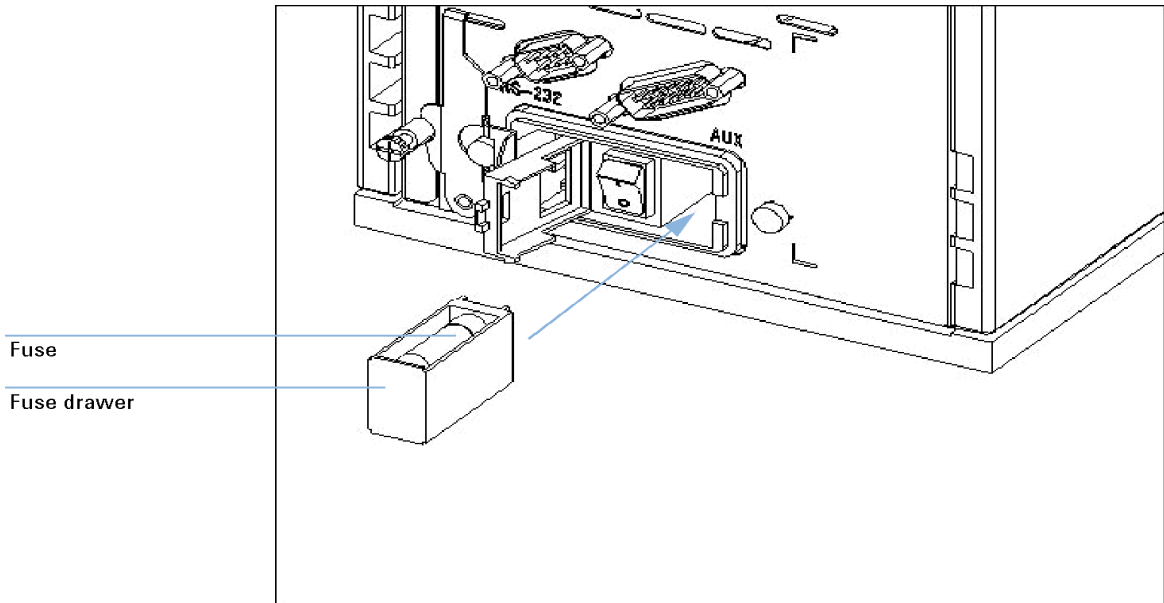

Figure 16 Insert fuse drawer
- 6 Slide in the fuse drawer and push till it fits tightly as shown in Figure 16 on page 189.